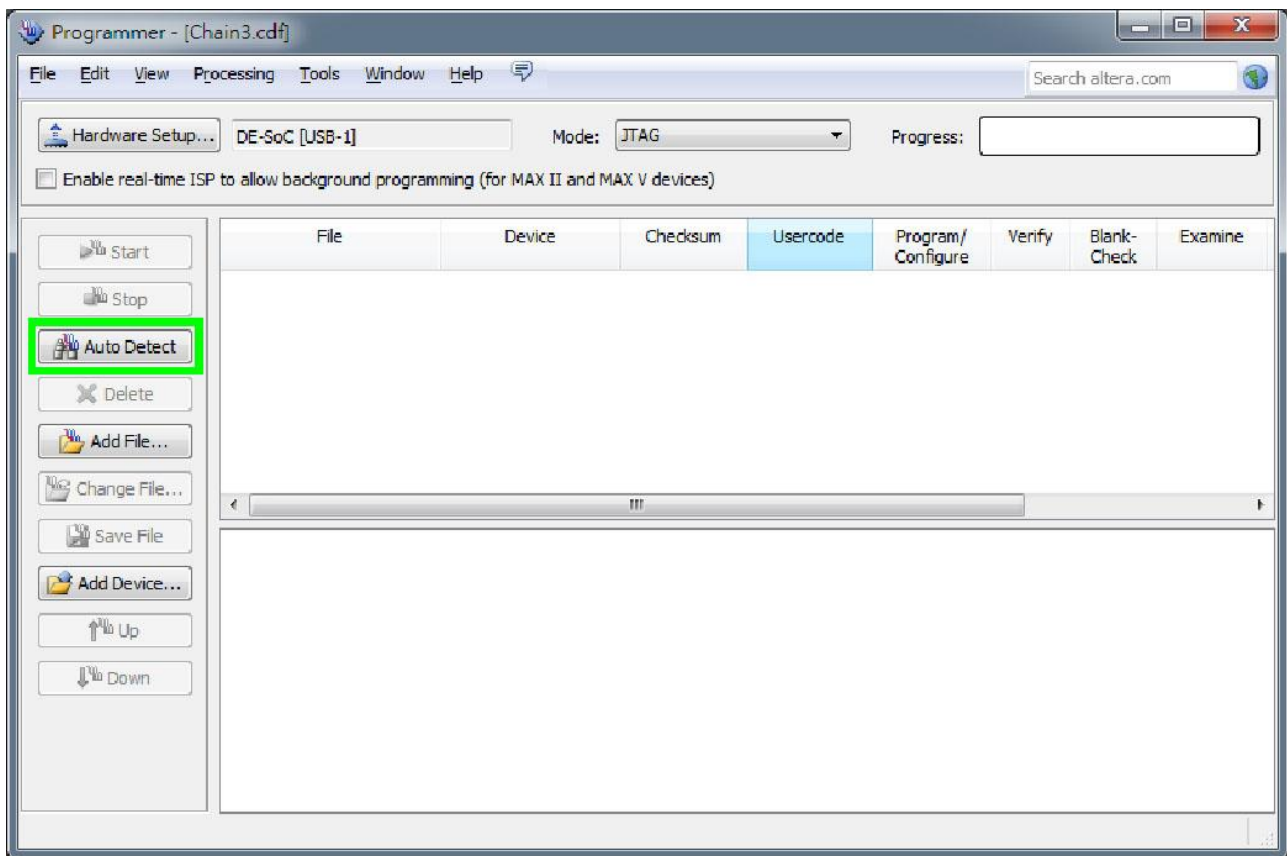

Figure 3-3 Detect FPGA device in JTAG mode
1. Open the Quartus II programmer and click “Auto Detect”, as circled in **Figure 3-3**